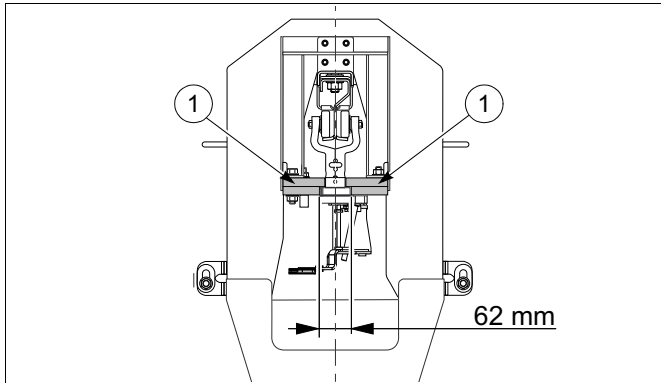
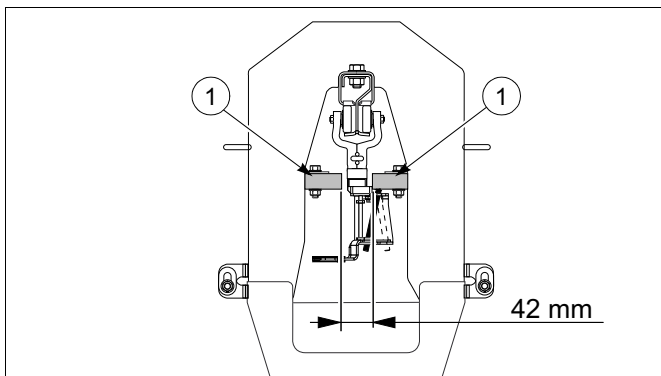

fig. 25 Setting the viscera pack guides of the viscera pack unloading station with pivoting station
fig. 26 Setting the viscera pack guides of the viscera pack unloading station without pivoting station
- Set the width between the viscera shackle guides according to fig. 25 and fig. 26. Set the guides symmetrically in relation to the centre line.